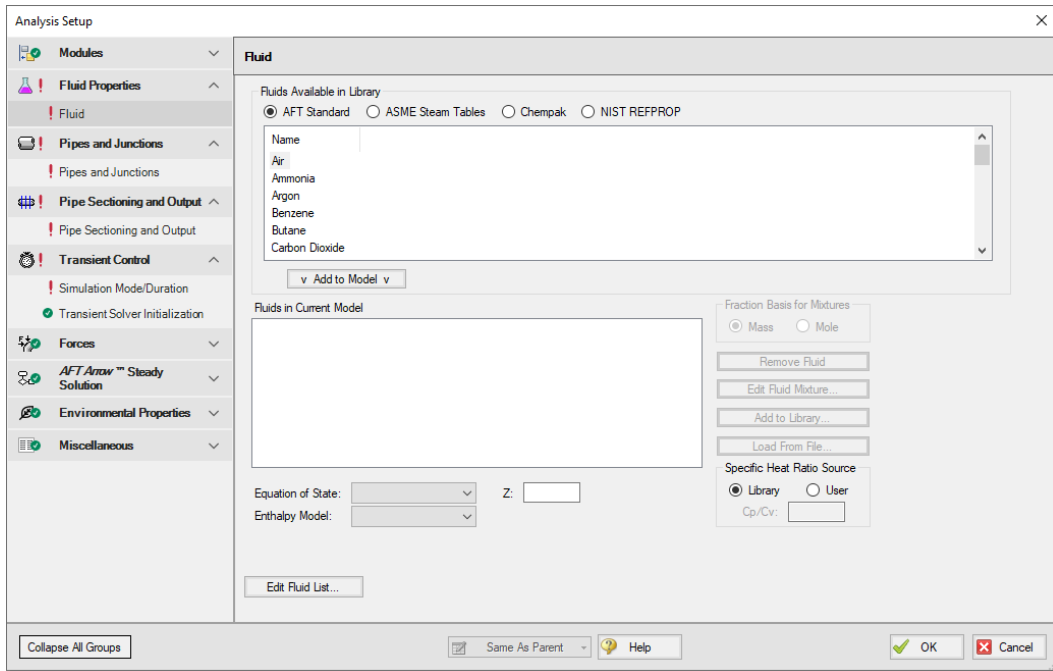

Figure 2.14 The Analysis Setup window tracks the defined and undefined model input
- Next, click **Analysis Setup** on the **Main Toolbar** to open the Analysis Setup window (see Figure 2.14). The Analysis Setup window contains
Under the Modules group, click on the Modules item to open the Modules panel, shown in Figure 2.14. Here you can enable and disable